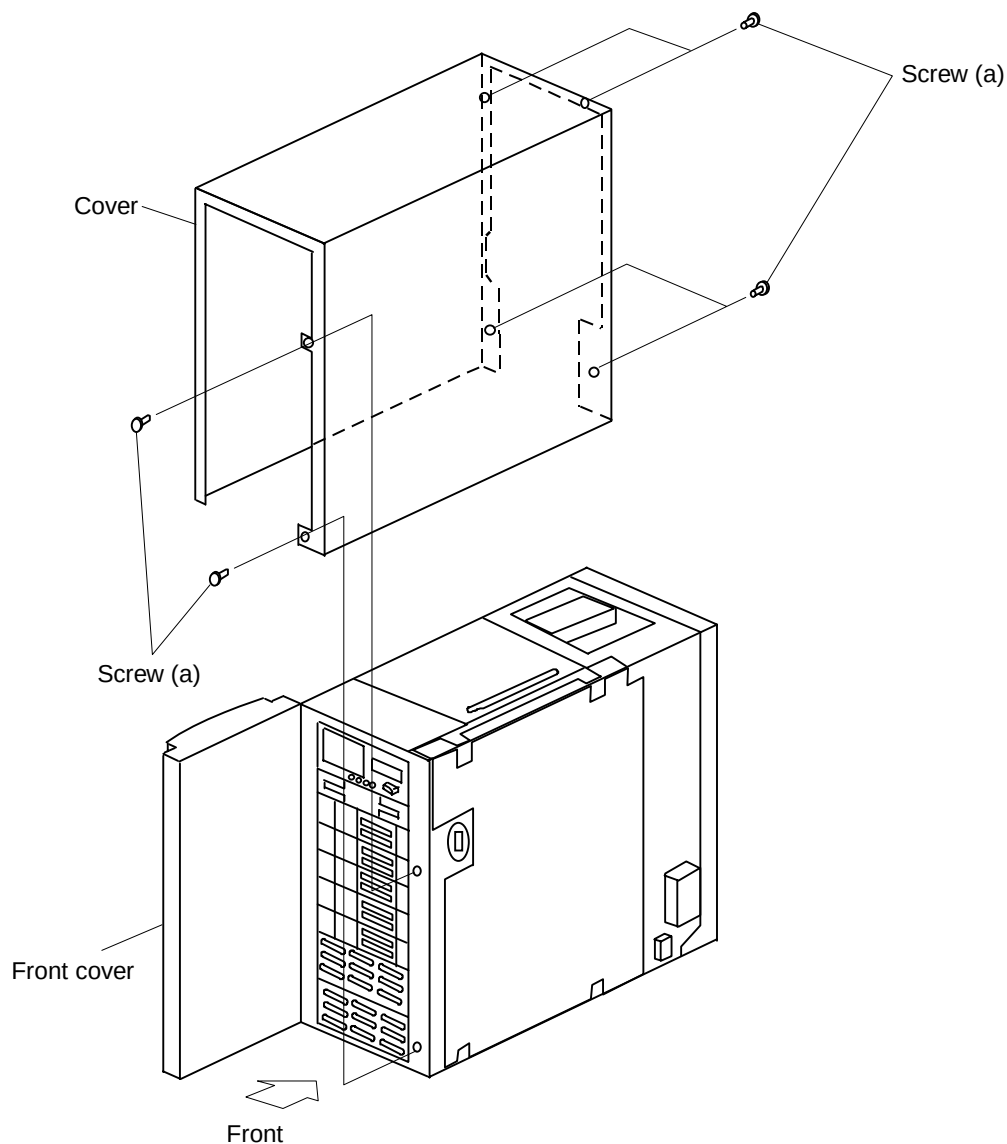

Figure 3.2 Removing/Installing the Cover
3.2 Removing/Installing the Cover. (See Figure 3.2.)